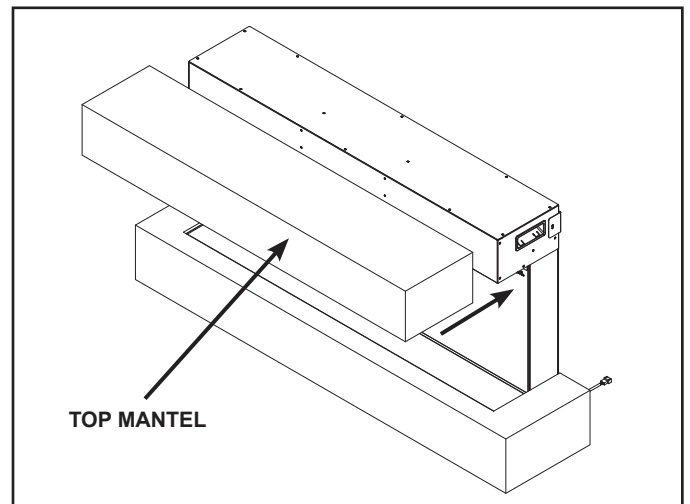

Figure 4
4. Slide the top mantel section onto the appliance. See Figure 4.